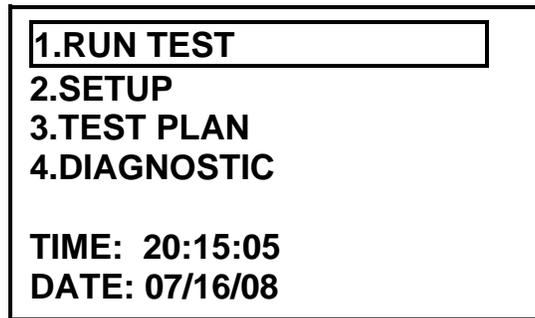

Figure 14.0 Main Menu
- b. **Origin:** The “Transformer Configuration Selection” first menu displays after selecting “Run Test” from the “Main Menu” (Figure 14.0).